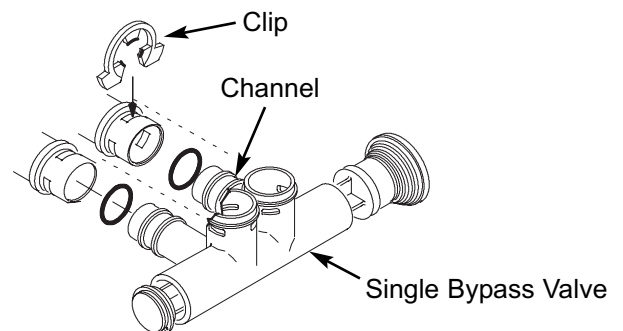

FIG. 11
5. Push the single bypass valve into the softener valve as far as it will go. Snap the two large holding clips into place, from the top down as shown in Figures 11 & 12.